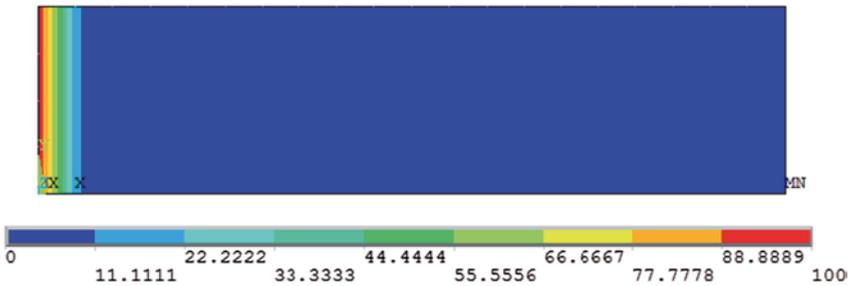

Fig. 5.22 Temperature distribution contour plot at $t=0.05$
- Fig. 5.22 shows the contour plot of the temperature distribution at $t = 0.05$ as it appears in the Graphics Window.